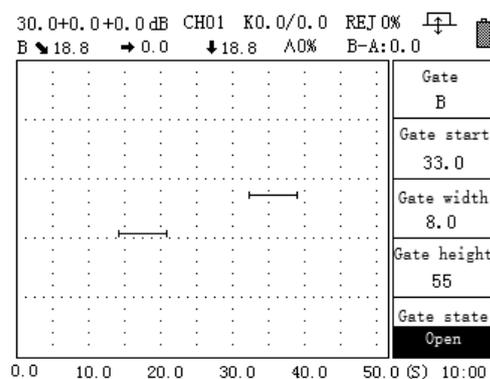

Figure2-5
2.2.2.3 The B gate reading method is shown in Figure 2-5.